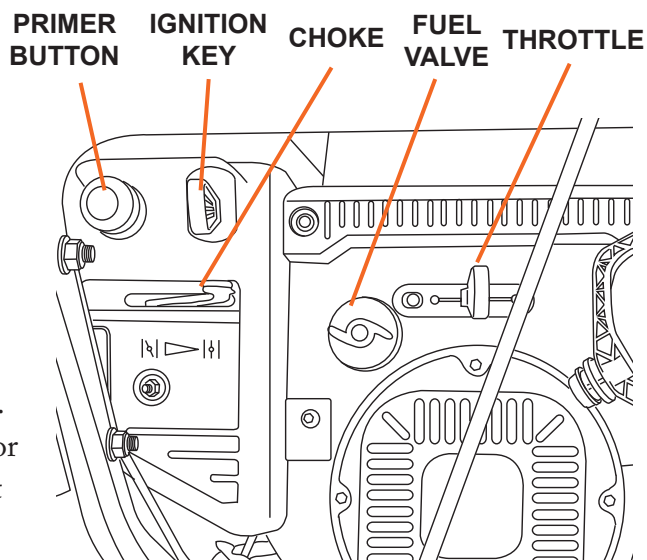

Figure 11
1. To start a cold engine, move the choke to the **CHOKE** position (to the left). To restart a warm engine, leave the Choke in the **RUN** position (to the right). (See Figure 11).